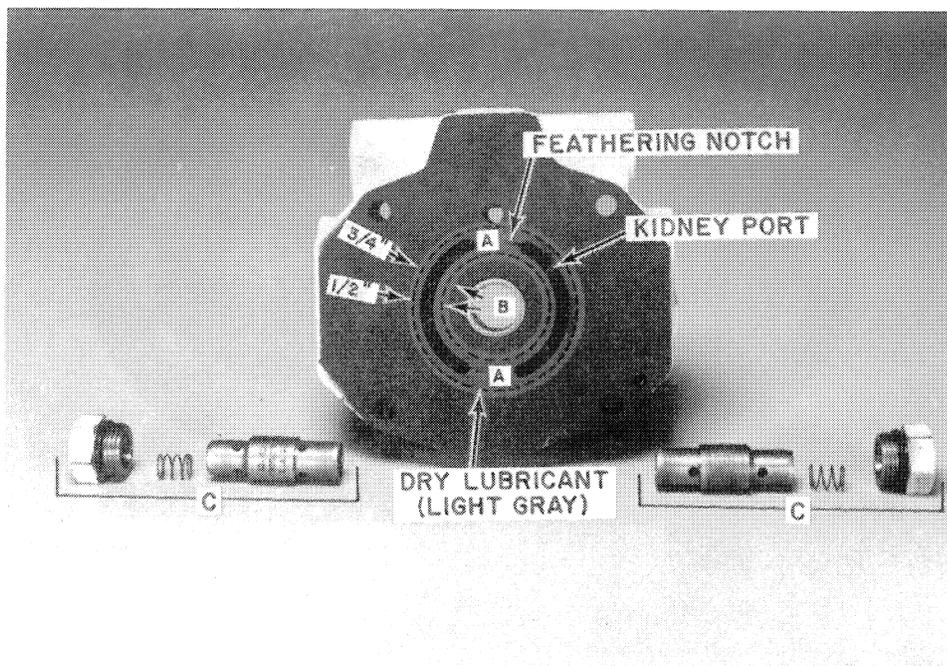

FIGURE 4-25
10. The valve block relief valves have been removed in Figure 4-25. These are non-adjustable and should be replaced if not operating properly.
After heat-treating, a 3/4" (20 mm) wide band of dry-film lubricant is applied to both sides of the valve plate, Figure 4-25.
- Usually will be completely polished off (along with the black outer layer) between the two PISTON kidney ports, Figure 4-25.
Check the sides of the valve plate for wear, grooves, or metal buildup in the 1/2" (13 mm) wide area contacted by the rotating piston block, A, Figure 4-25. This area should not feel rough or grooved when scraped crossways with your thumbnail. Sometimes the unpolished edge of the dry-film lubricant can be felt, but the valve plate is not worn and can be used.
Check the needle bearings for wear, B, Figure 4-25. These bearings are pressed into the valve plate, with bearing numbers to the outside.
Two directional relief valves are located in each transmission, C, Figure 4-25. These relief valves limit the maximum system pressure to 3000 psi.